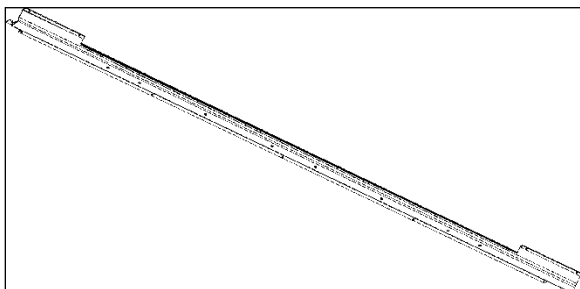

FIGURE 128: LED INDIRECT LIGHTING IN OVERHEAD COMPARTMENT
2. Using a Phillips head screwdriver, unscrew and remove the existing LED strip (FIGURE 128).